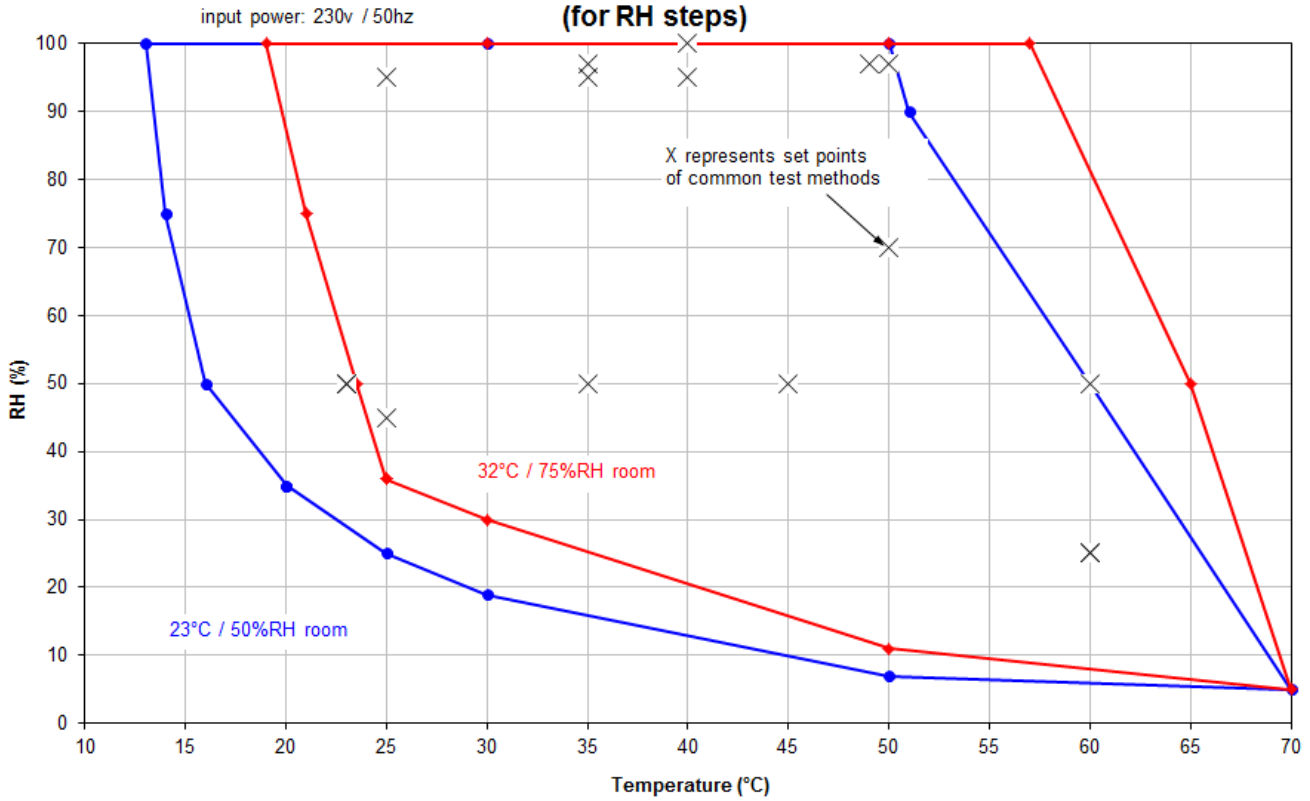
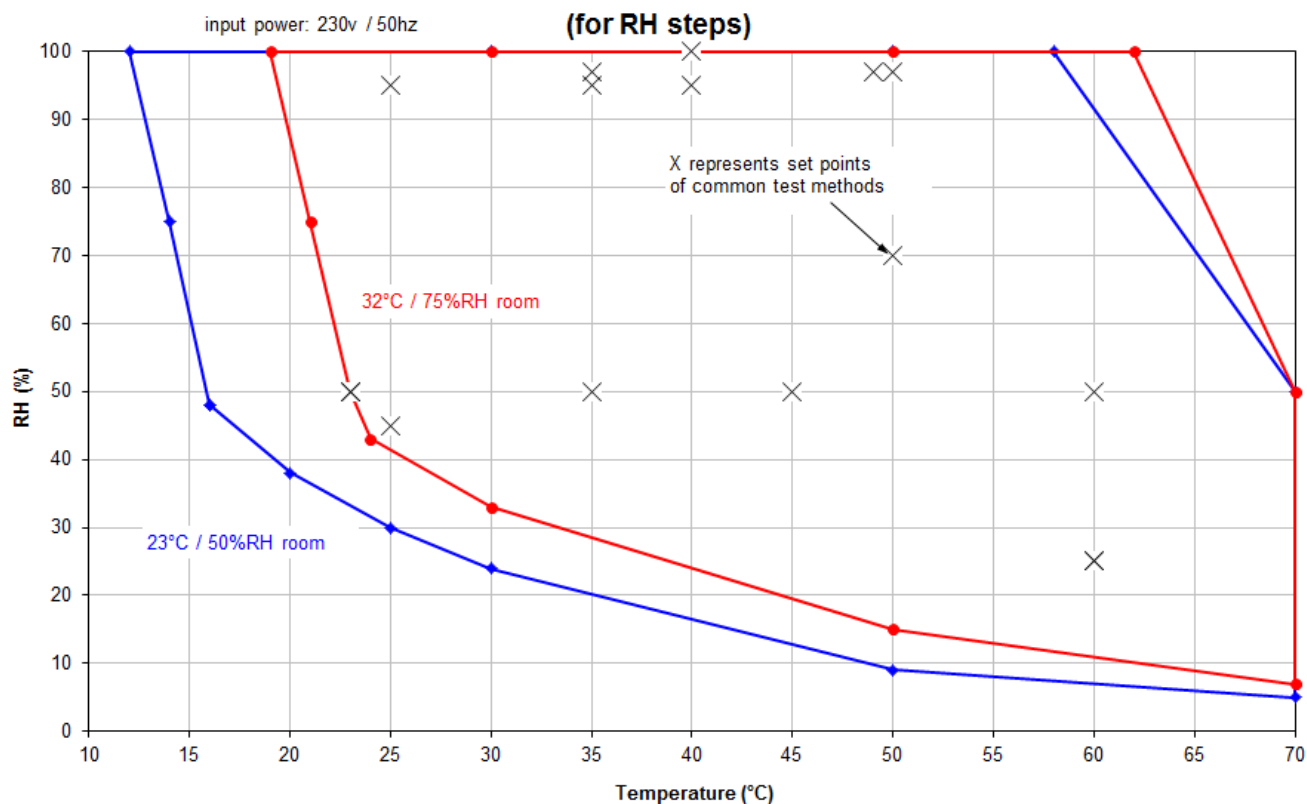

Figure 11.2a: Q-FOG CRH 600 temperature and RH range.
Figure 11.2b: Q-FOG CRH 1100 temperature and RH range.
- For custom test cycles, see the Chamber Temperature and RH Range charts, Figure 11.2a and Figure 11.2b for attainable chamber air temperature and relative humidity.